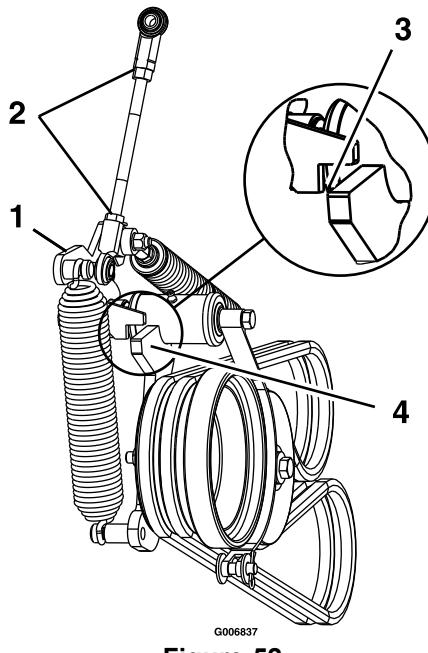

Figure 52
13. Loosen the jam nuts and adjust the linkage until the top of the idler arm is aligned with the bottom of the notch on the tension arm as shown in Figure 52.